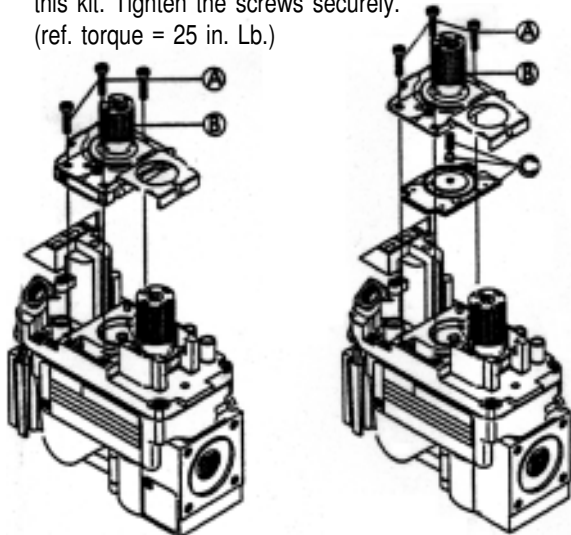

Figure 2. Removing the old gas valve regulator assembly.
1. Using a Torx T20, or slotted screwdriver, remove and discard the three pressure regulator mounting screws (item A in Figure 2), pressure regulator tower (B), and the spring and diaphragm assembly (C).